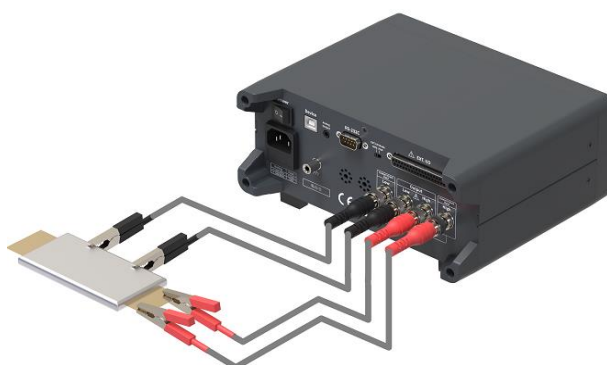

Figure 3-2-1 4-Terminal Wiring Diagram
- 1) **4-Terminal contact check:** To check the 4-terminal contact, you need to turn on the contact check function and wire it as shown in Figure 3-2-1.